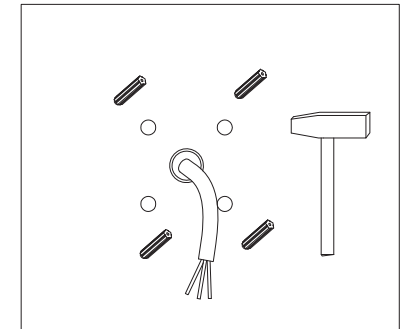

Figure 8
STEP 5: Fix rubber plugs into holes (Figure 8)